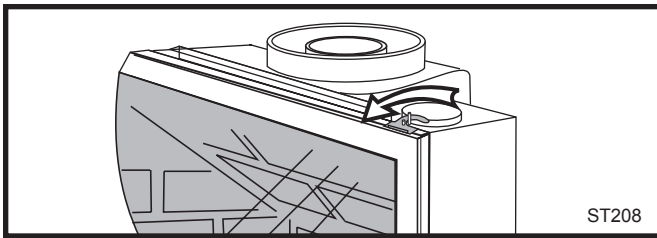

Fig. 59 Release the latches to release the glass frame.
2. Swing open the swiveling latches at the top left and right corners of the glass frame. (Fig. 59, Page 31)